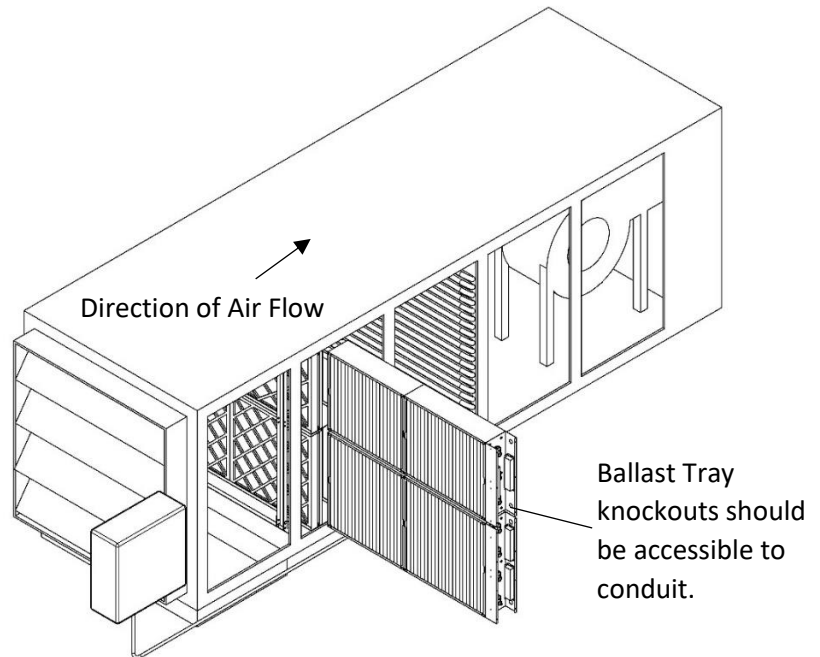

Figure 26
- 4.) Remove old panel(s). Take note of the size of each panel and their location. The new panels of corresponding size will need to be placed in the same location. See Figure 26.
- 5.) Reinsert catalyst panel(s) into Free-Standing Rack in the same location they were removed from. Ensure that Ballast Tray knockouts are on the same side as the electrical conduit. See Figure 26. For side load applications, connect electrical Molex connectors on the ends of the panels. Use catalyst clips to link panels together.